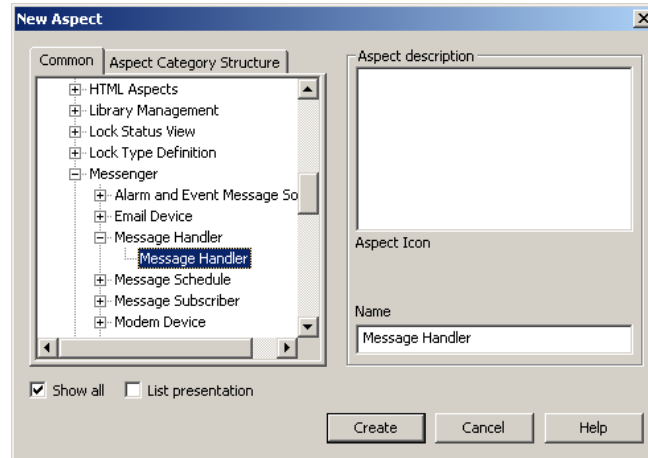

Figure 114. New Aspect Dialog Box (Message Handler)
- b. Navigate to and select `Message Handler` from the list that appears to produce the view shown in Figure 114.